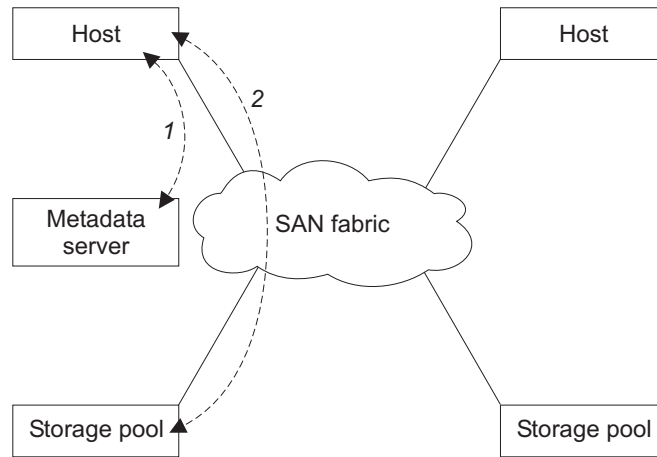

Figure 2. Asymmetrical virtualization
In asymmetric virtual storage networks, the data flow, (2) in the Figure 2 on page 5, is separated from the control flow, (1). A separate network or SAN link is used for control purposes. The metadata server contains all the mapping and locking tables while the storage devices contain only data. Because the flow of control is separated from the flow of data, I/O operations can use the full bandwidth of the SAN. A separate network or SAN link is used for control purposes. However, there are disadvantages to asymmetric virtualization.